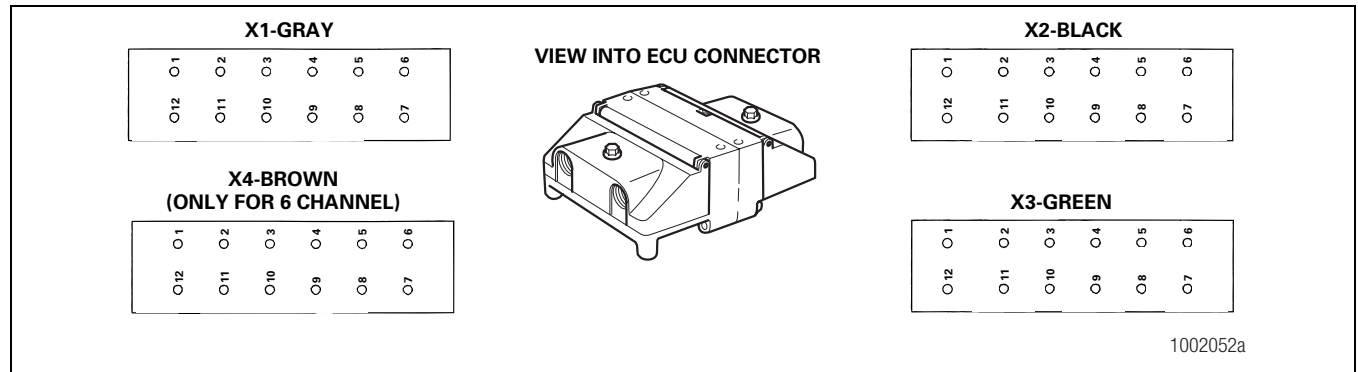
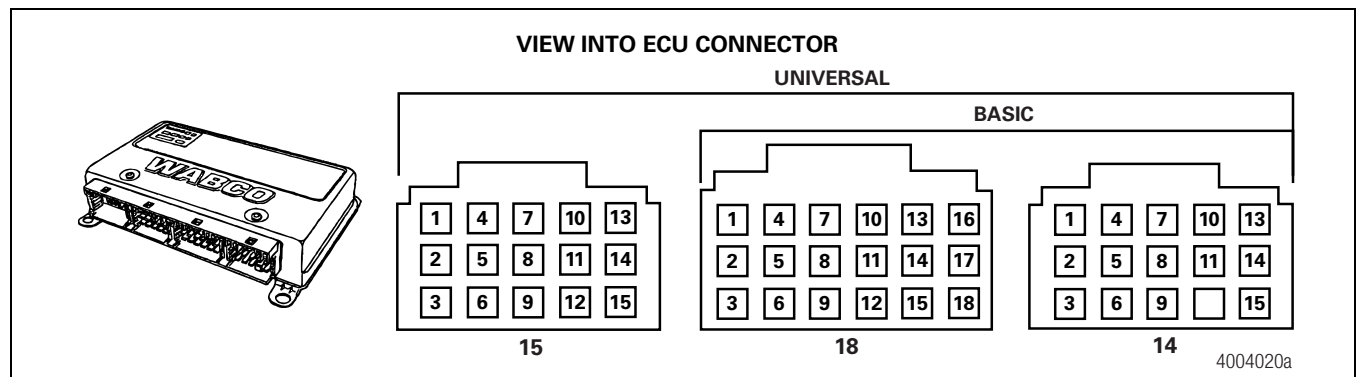

Figure 3.23
Figure 3.24
**NOTE:** Pin locations are illustrated in Figure 3.23 (Frame) and Figure 3.24 (Basic and Universal).